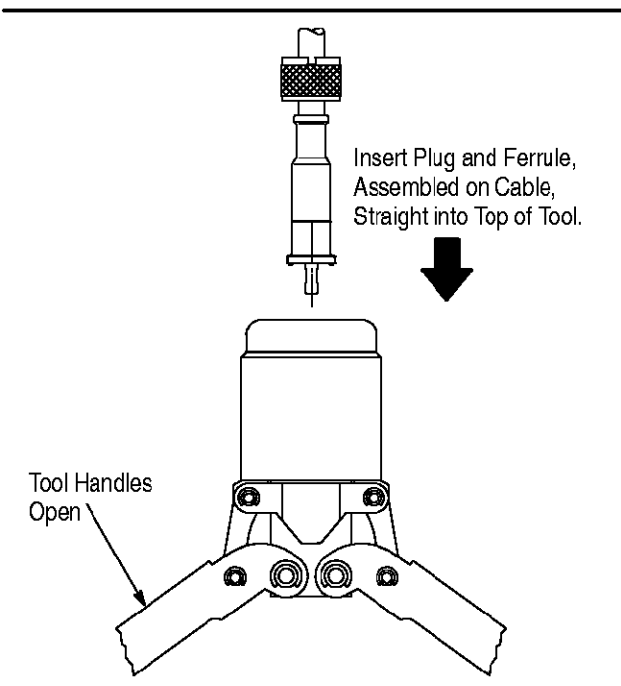

Figure 4
4. CRIMPING PROCEDURE (Figure 4)